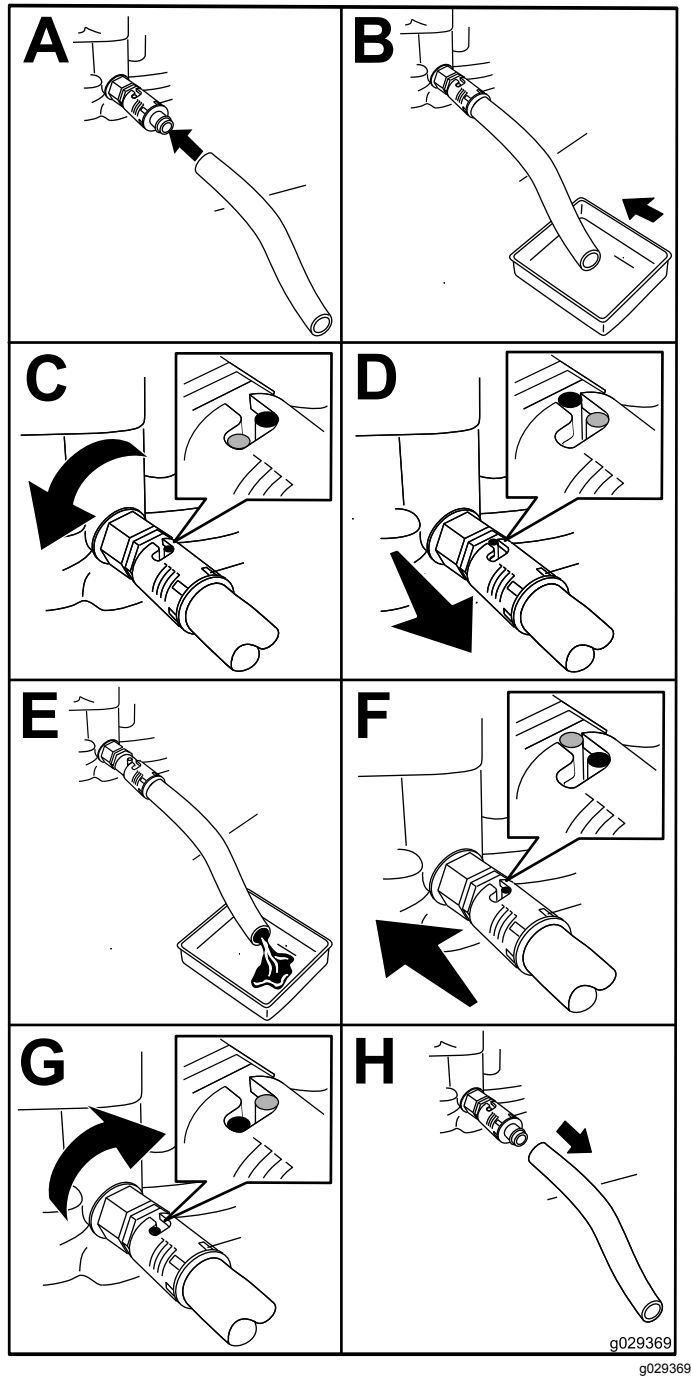

Figure 20
2. Drain the oil from the engine (Figure 20).